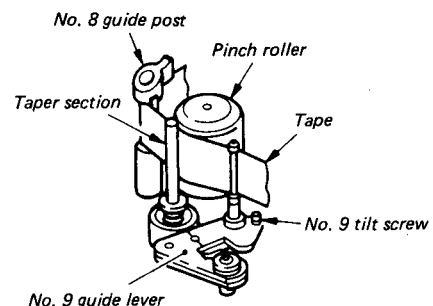

Fig. 1-4-16 No. 9 guide lever adjustment
3. If the tape runs along the upper flange or tape wrinkle occurs, turn the No. 9 tilting screw in Fig. 1-4-16 counterclockwise and adjust the screw until the tape runs along the lower flange.
4. If tape wrinkle occurs at the lower flange, turn the No. 9 tilting screw in Fig. 1-4-16 clockwise for no tape wrinkle.